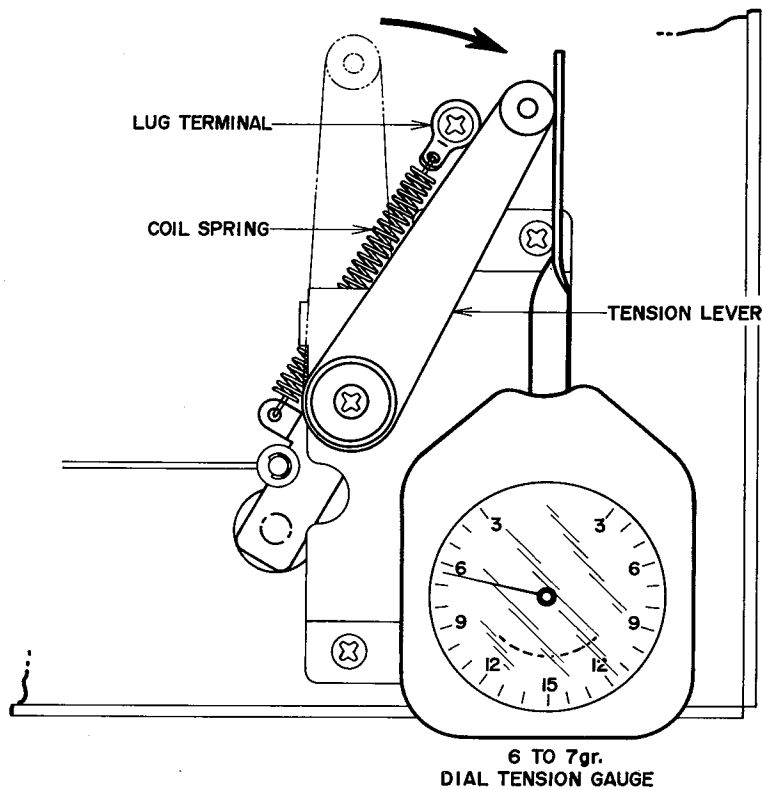

Fig. 16
**11. TENSION ARM'S RETURN TENSION ADJUSTMENT (Refer to Fig. 16)**